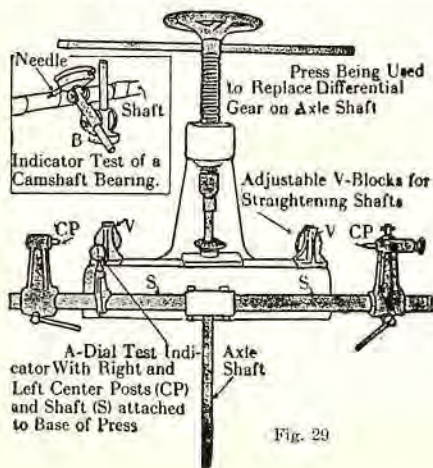
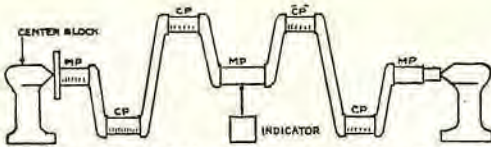

Fig. 29
Fig. 30A. Method of testing a crankshaft for a bent place. (MP) are crankshaft main bearing pins; (CP) are crankshaft connecting-rod pins.
A dial gauge¹ or indicator (Fig. 29) can also be used for testing a crankshaft (or any other shaft) for concentricity, its operation being explained as follows: The shaft is placed in the adjustable center posts (CP). The needle of the dial indicator is permitted to touch the crankshaft lightly (as at B) at various points, while the crankshaft is slowly turned by hand.
The concentricity of the crankshaft main bearing pins could be tested as shown in (B) on the machine shown in Fig. 29, but the test of the connecting-rod bearing pins on the crankshaft, which are offset to the main bearing pins, would necessitate special dogs or jigs for holding it. (The crankshaft gauge, Fig. 28B, is best suited for this.)
To straighten, it may be placed in the blocks (V) (Fig. 29) and the press used on it. Another shaft-straightening press is shown in Fig. 30.
Fig. 29. Universal shaft-testing and straightening device² and arbor press in one unit. (A) shows the dial indicator on shaft (S); (B) gives an idea how the needle point of the dial indicator is used to test the concentricity of a shaft when placed between the center posts (CP).
To test for a bent crankshaft³ with a dial gauge or indicator, place shaft in center blocks (Figs. 30A, or 29). Gauge or indicator is used to locate the direction of the bend, if there is any, that is in relation to the main bearing journals (MP) (Fig. 30A). This test would be made on the center main bearing journal of a 3, 5, 7, or 9-bearing shaft, or on the two center journals in the case of a 4-bearing shaft. The pointer of gauge is placed on shaft journal as shown in (B) (Figs. 29, or 30A). The bearings should be tested to determine out-of-roundness before the shaft is tested for bends. To avoid confusion, an out-of-round journal should be marked at its greatest and least diameters and the difference in measurements noted.
The crankshaft "throws" are the parts (CP) to (MP) (Fig. 30A). On a four-cylinder engine, the four throws (CP) should be in exactly the same plane or line. When out of line the crankshaft is twisted.
After this inspection, test for a bent or sprung condition by placing on the V-blocks (Fig. 29, page
Check alignment by placing in centers (CP). (Fig. 29). The camshaft should not be out more than .0015" at front bearing; .003" at center and .002" at end bearing. If camshaft is bent, straighten it on a straightening press.